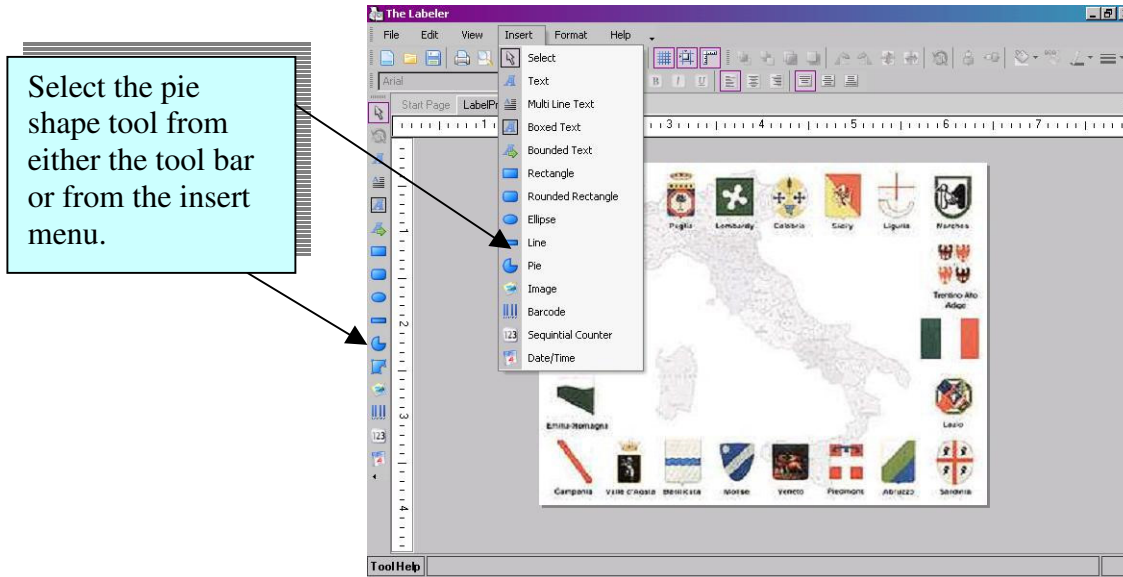

Figure 3.5.5.1: Inserting Pie Shape
1. Click on the pie shape tool  located on the tool bar, or you can find it in the insert menu (see Figure 3.5.5.1).